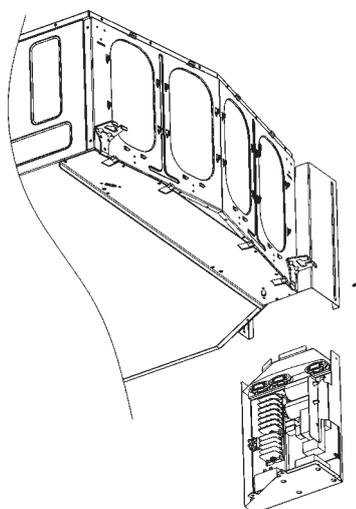

Fig. 29. Taking the box off the rail
3. If necessary, take the box out off the rail by removing the screw (see Fig.29).